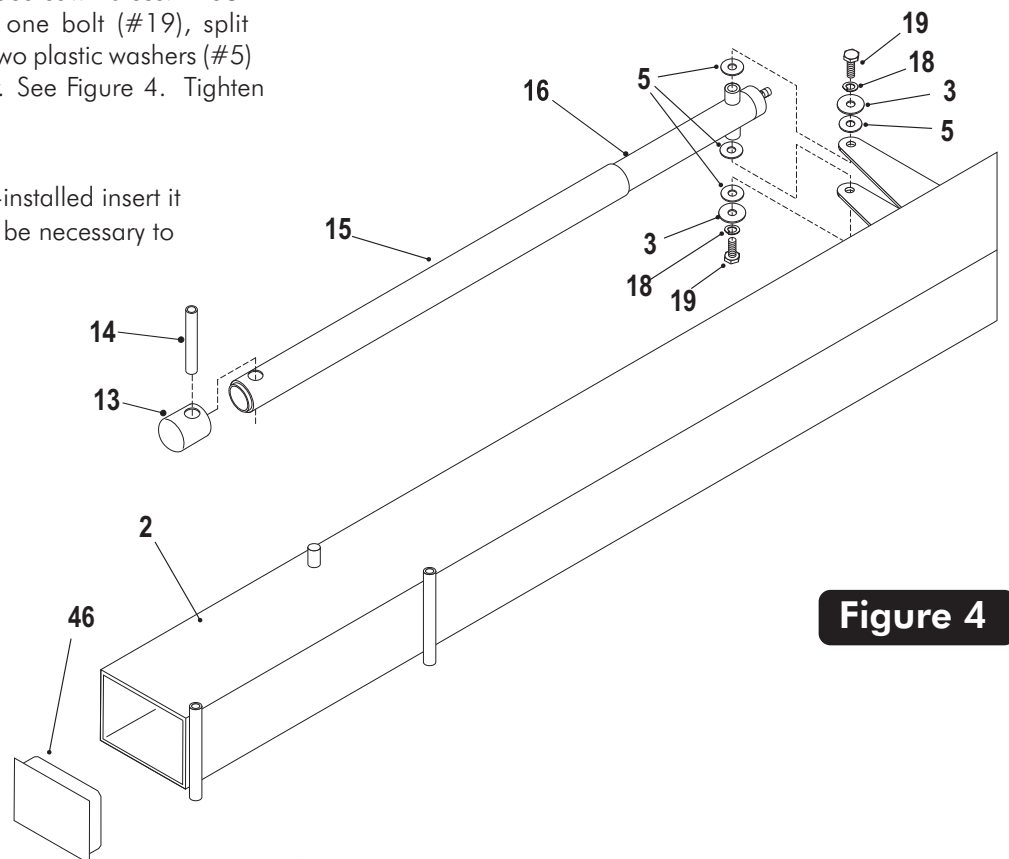

Figure 4
2. Slide Actuator Sleeve (#15) over Actuator (#16) and place Actuator Cap (#13) on top. Align holes in all 3 parts and slide Pivot Tube (#14) through holes in Actuator Cap (#13) Plastic Actuator Sleeve (#15) and Steel Actuator (#16) until equal amounts stick out through both sides of actuator. See Figure 4.
3. Lay Pole (#2) on its side on two padded saw horses. Attach Actuator (#16) to Pole (#2) using one bolt (#19), split lockwasher (#18), washer (#3) and two plastic washers (#5) to thread into each side of Actuator. See Figure 4. Tighten bolts tight.